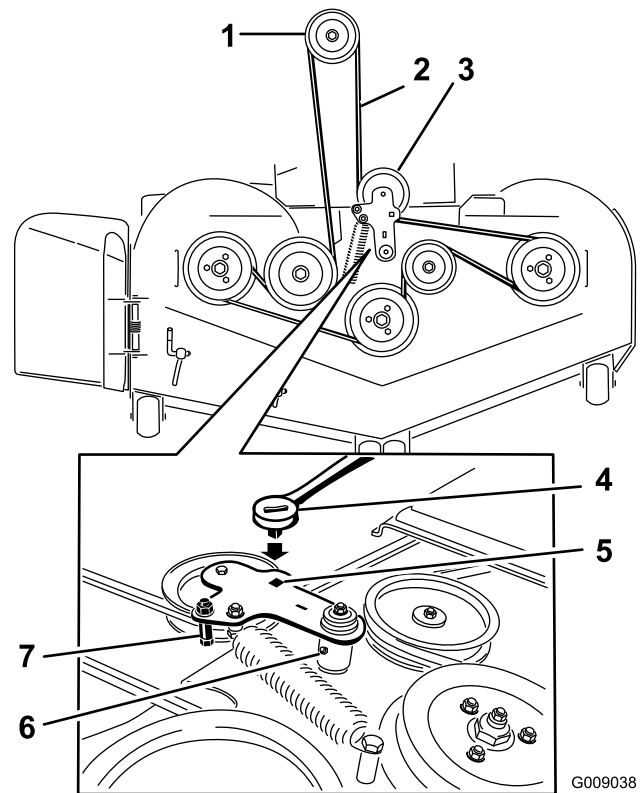

Figure 84
12. Install the belt guide on the idler arm (Figure 84).
13. Using the ratchet in the square hole, install the idler spring (Figure 84).
7. Use a ratchet in the square hole in the idler arm to remove tension on the idler spring (Figure 84).
9. Remove the belt guide on the spring-loaded idler arm (Figure 84).
11. Install the new belt around the mower pulleys and the clutch pulley under the engine (Figure 84).